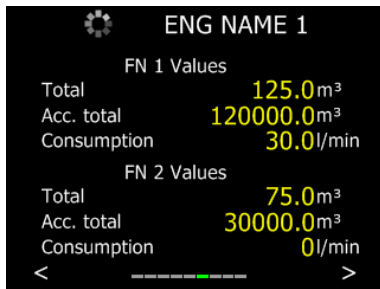
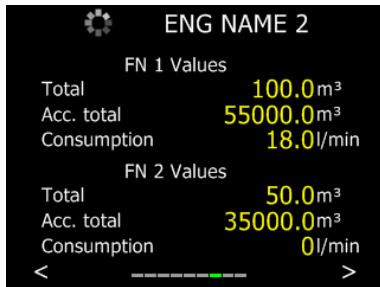

Figure 34: Menu 4
Figure 37: Menu 4B
On the screen of Menu 4 (B) (Figure 34 to 39) the *total- and current consumption per engine (Engine 1 and Engine 2) and per fuel type (FN 1 and FN 2)* are shown:
Only one of the screens Menu 4 (Figure 34, 35, 36) and only one of the screens of Menu 4B (Figure 37, 38, 39) will be available.